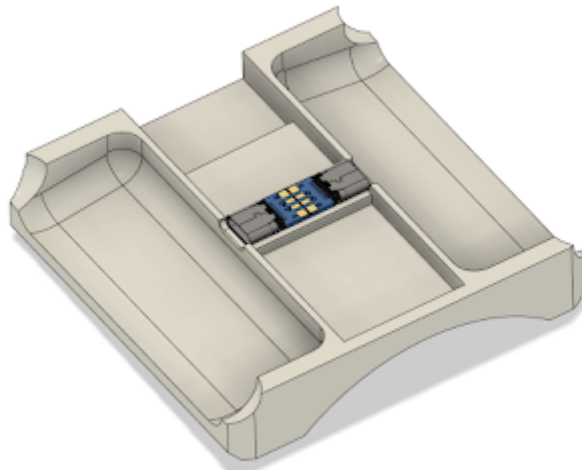

Figure 5.13: Both USB-C female ports are superglued onto the Bottom Battery Mount.
16. Place the Top Battery Mount on top of the Bottom Battery Mount (both sides should line up) and then superglue in place. USB-C female ports should be accessible through the outside mount hole (Figure 5.13.b). Wait till dry.